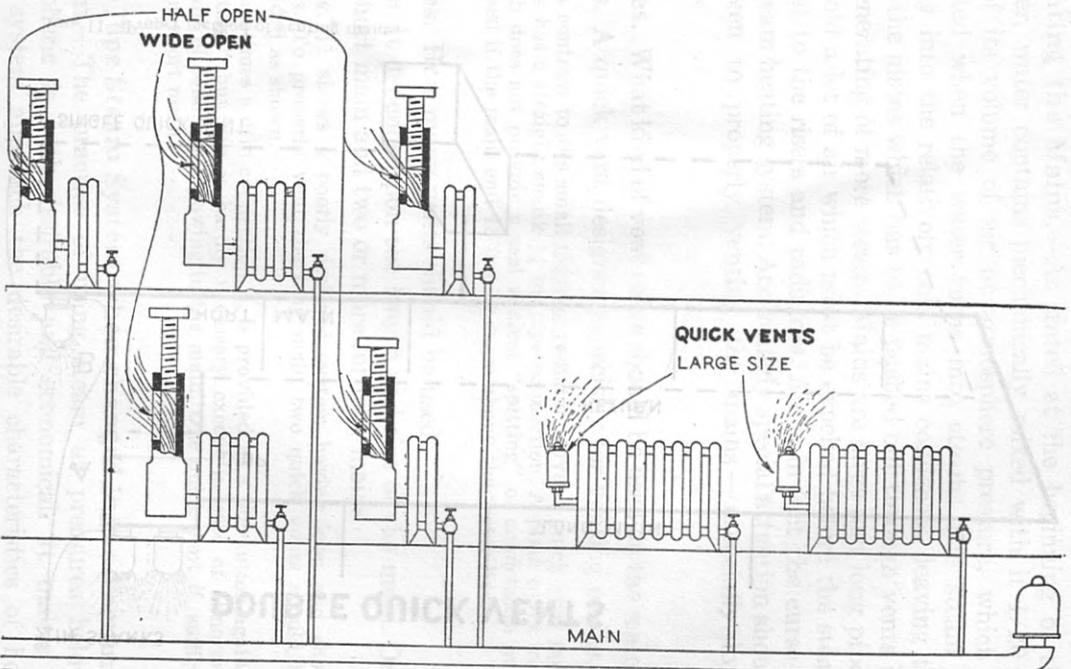

FIG. 10—Maximum speed in venting a difficult installation.
**Ans.** Put large size quick vent on radiators F and F' and increase vents to half open for the two section radiators and wide open for the four section radiators as in fig. 10.